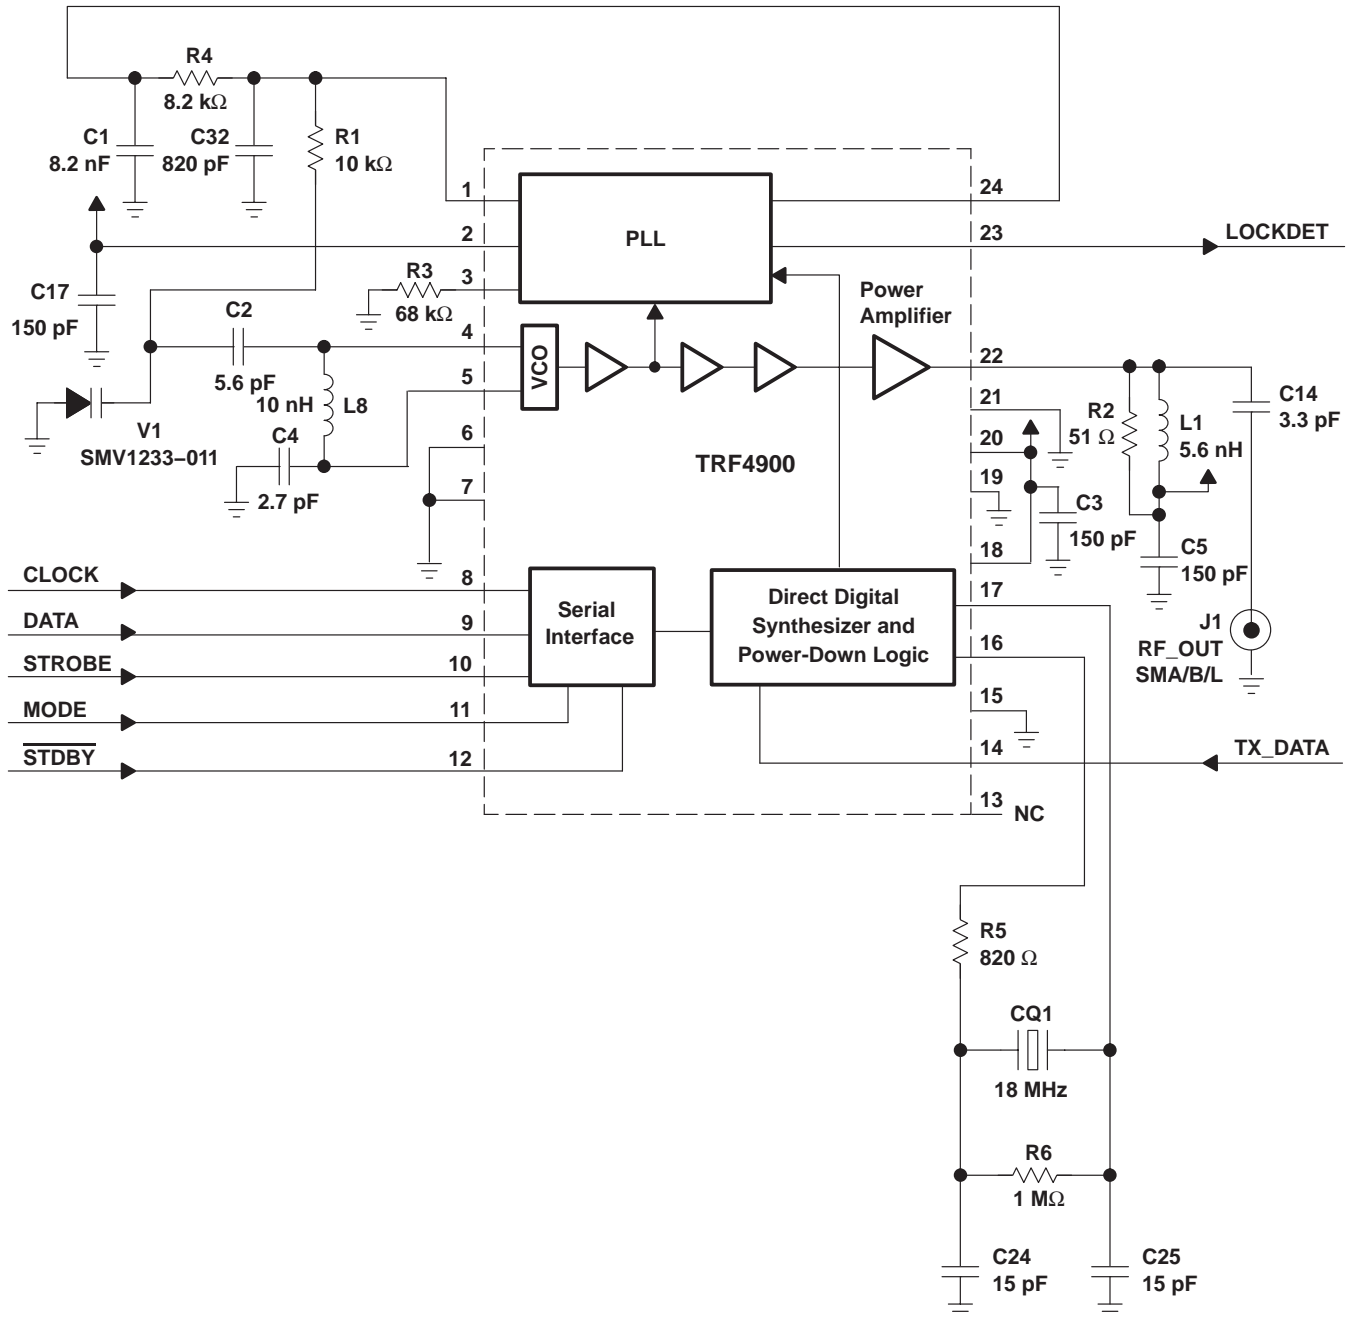
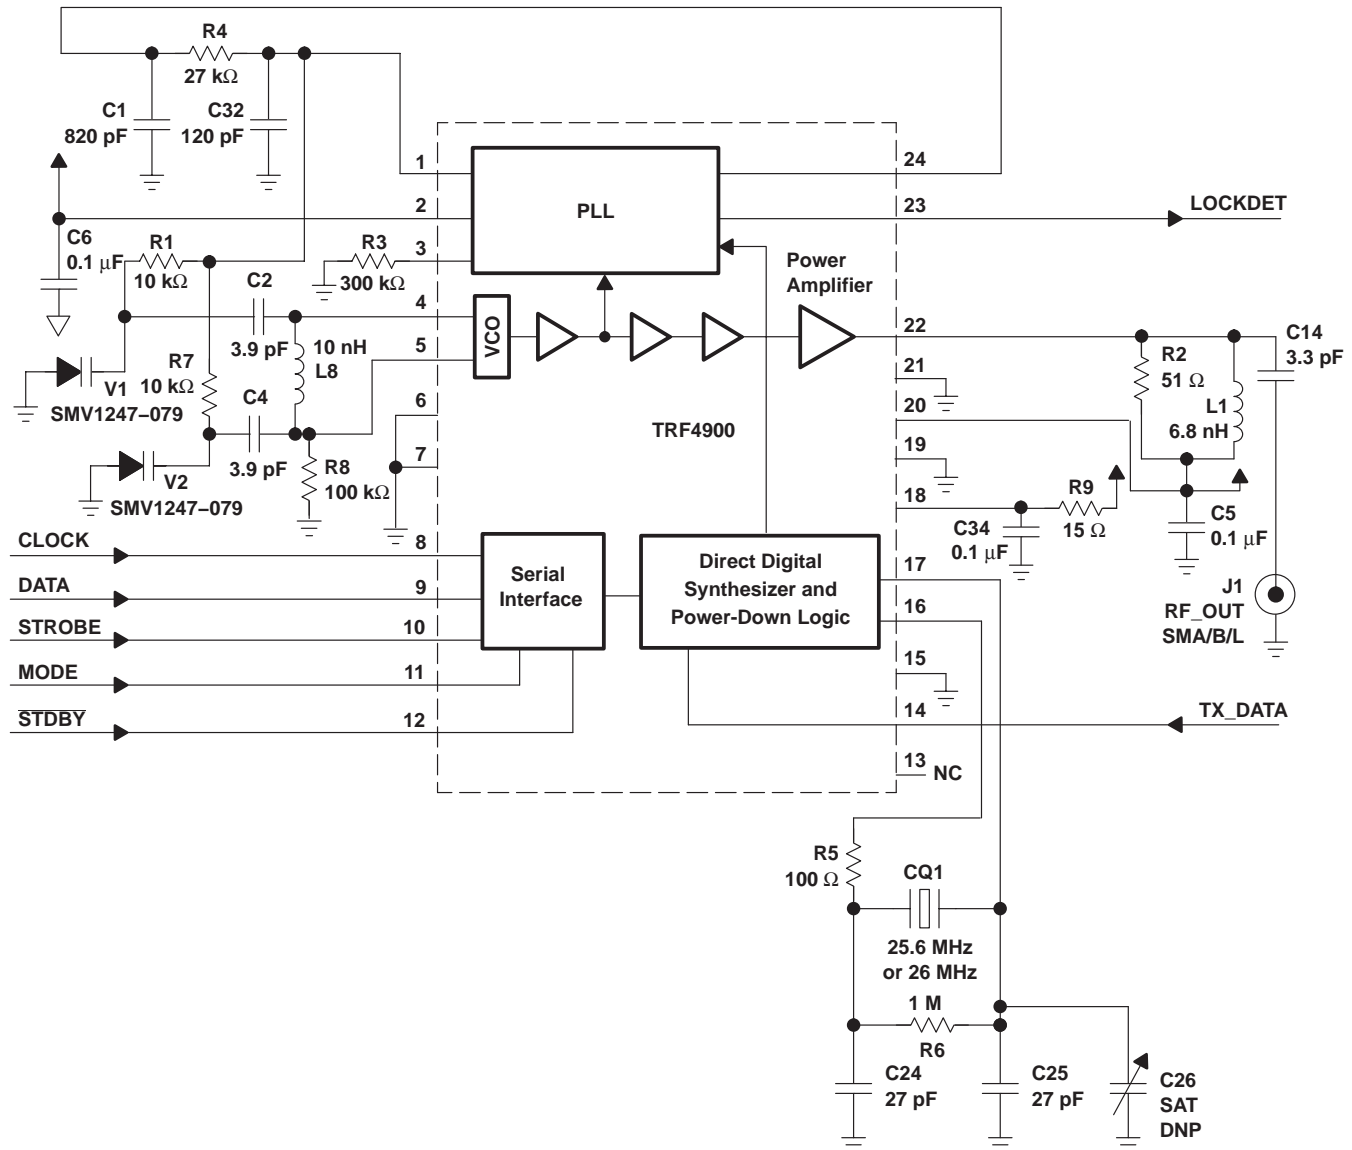

Figure 15. Typical Application Schematic for 868-MHz to 870-MHz European ISM Band
Figure 16. Typical Application Schematic for 902-MHz to 928-MHz North American ISM Band
A typical application schematic for an FSK system operating in the European 868-MHz to 870-MHz ISM band is shown in Figure 15. If the TRF4900 is left on for long periods of time without going into standby mode, a 100-Ω resistor to ground should be added at terminal 4 or terminal 5 to reduce tuning voltage drift as in Figure 16. If the 100-Ω resistor is present, C2 and C4 may be changed to adjust the tuning range as needed. Since most EU applications involve relatively short periods of transmission, the 100-Ω resistor is left off in the schematic shown in Figure 15.
**external component list for Figure 15 (5% tolerance unless otherwise noted)**
A typical application schematic for an FSK system operating in the North American 902-MHz to 928-MHz ISM band as shown in Figure 16.
**external component list for Figure 16 (5% tolerance unless otherwise noted)**